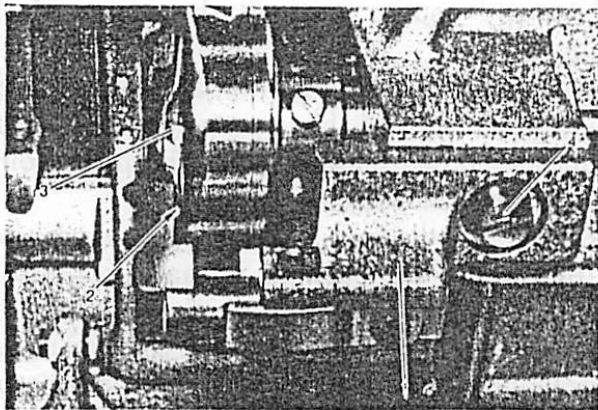

Fig. 39
To loosen the screw (4), at first remove the hobbin case retainer ratchet (1, Fig. 39).